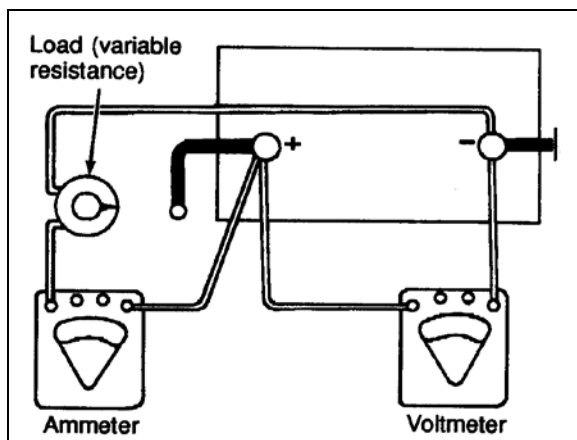

FIGURE 17: LOAD TEST
On X3-45 coaches, booster block is located near the batteries in the engine compartment on the R.H. side and is accessible through engine R.H. side door (Fig. 17).
1. Connect one end of one red jumper cable to the positive (+) terminal of the booster power source and the other end to the positive (+) post of the booster power block, located on the R.H. side of the engine compartment (refer to fig. 17).